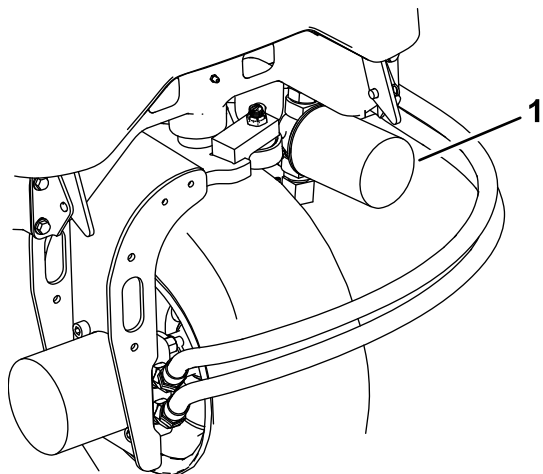
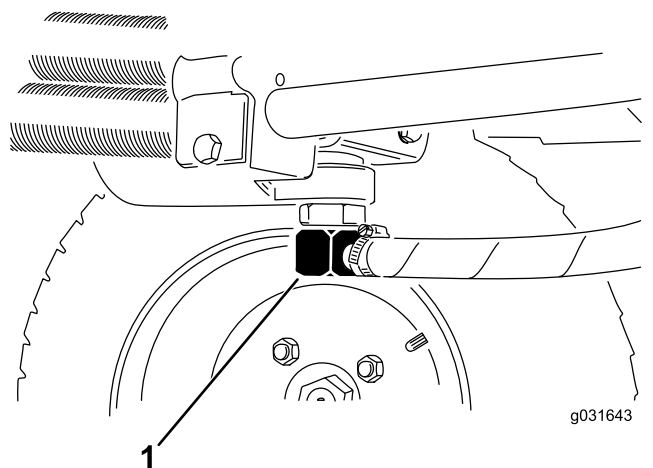

Figure 62
Figure 63
3. Clean around the filter-mounting area, place a drain pan under the filter, and remove the filter (Figure 62).
2. Disconnect the hydraulic line or remove the hydraulic filter and let the hydraulic fluid flow into a drain pan (Figure 62 and Figure 63).
3. Install the hydraulic line when the hydraulic fluid stops draining (Figure 63).